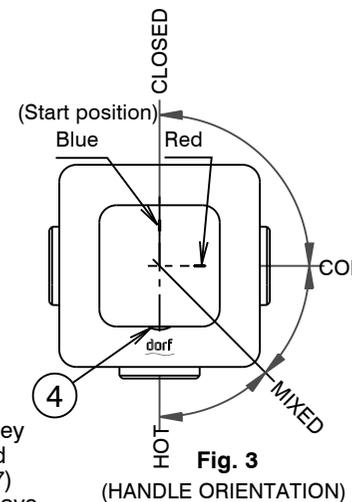

Fig. 3
- 4) Rotate the plastic insert (7) anticlockwise to the stop position. Fit handle (1) onto insert (7), with the red/blue markings as shown (Fig.3), then tighten grub screw (2). Fit plug (4) taking care not to damage the decorative finish.
- * **This mixer is fitted with a 'Progressive' cartridge. To operate the cartridge, the handle is rotated clockwise (Fig.3). The first 90° of handle rotation will only select cold water. Further rotation of the handle will deliver a mixture of hot and cold. When the handle is rotated fully clockwise, only hot water will flow.**
- 2) Carefully remove plug (4) before using a 2.5mm allen key (3) to loosen grub screw (2) and remove handle (1) and handle spacer (5). Undo screw (6) and remove insert (7) from old cartridge spindle. Unscrew sleeve (8) and remove cover plate (9), taking care not to damage the decorative finish. Unscrew retaining nut (10) (32mm A/F) then lift out old cartridge (11).
- 3) Ensure inside face of mixer body (12) is clean. Check that seals are in position in base of new cartridge (11). Fit new cartridge (11) into mixer body (12), taking care the lug on base of cartridge (11) fits into mating hole in mixer body (12). Screw on nut (10). **Important:** Nut (10) should be tightened until solid. Rotate the cartridge (11) spindle anti-clockwise to the stop position then fit insert (7) ensuring the flat sides of the insert are in horizontal/vertical alignment. Small adjustments can be made to the alignment by loosening nut (10) and rotating the cartridge slightly before re tightening the nut. Retain the insert (7) to the spindle using screw (6). Replace the cover plate (9) (see installation step 2).
- 4) Slide the handle spacer (5) onto the plastic insert (7) until the spacer rests against the sleeve (8). Fit handle (1) with the red/blue markings as shown (Fig.3), taking care that it is pushed fully onto insert (7), then tighten grub screw (2). Replace plug (4) taking care not to damage the decorative finish.